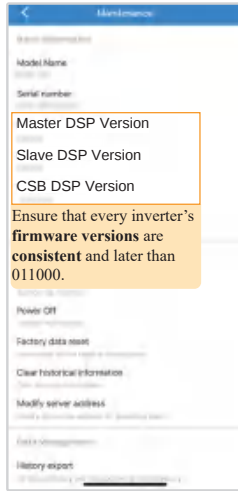

Figure 4-1 Verify Version Number
- Verify version number: (Admin account) **Console > Maintenance > Basic information** (Figure 4-1)